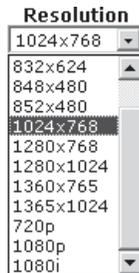

Figure 6-9 — Resolution scroll box
1. Click the resolution field. A drop down scroll box appears (figure 6-9).